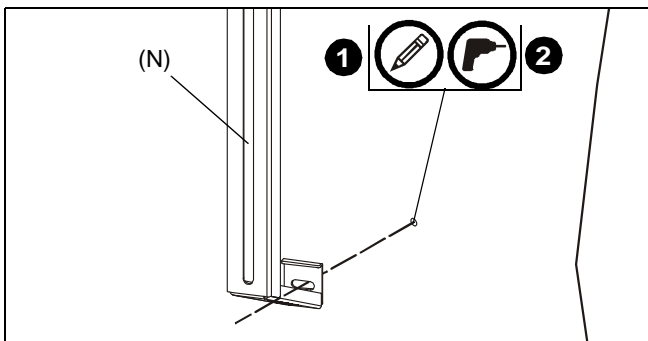

Figure 13
1. Mark the wall on drywall through the adjustable leg (N) on each upright assembly. (See Figure 13)
2. Drill a 1/2" hole at each marked location. (See Figure 13)